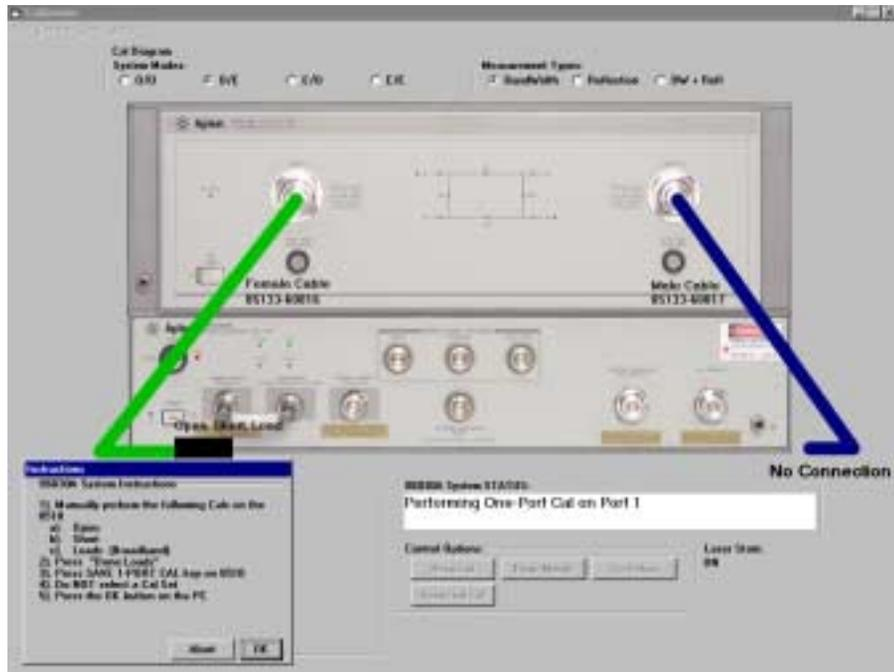

Figure 3-2.
- 16** Repeat Step 7 through Step 15 by attaching the Open, Short, and Load to the 8517B Port 2 instead of Port 1. Refer to Figure 3-2.